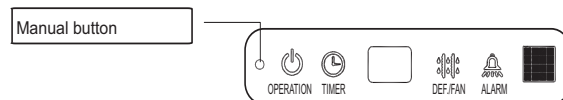

Fig. 21 – Display Panel
- If the remote control is lost, damaged, or the batteries are exhausted, the system can be operated by using the manual button (forced Auto) located on the front panel (see Fig. 21).